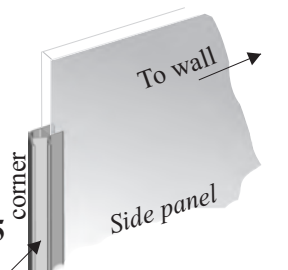

Fig. 5
- 4 FITTING GLASS PANELS**, 4.1 On the large glass side panel there is a corner seal into which one of the door side panels will be inserted to form the corner. Using the detail in Figs. 5 & 6 determine the bottom of the large side panel and fit the bottom seal as shown.